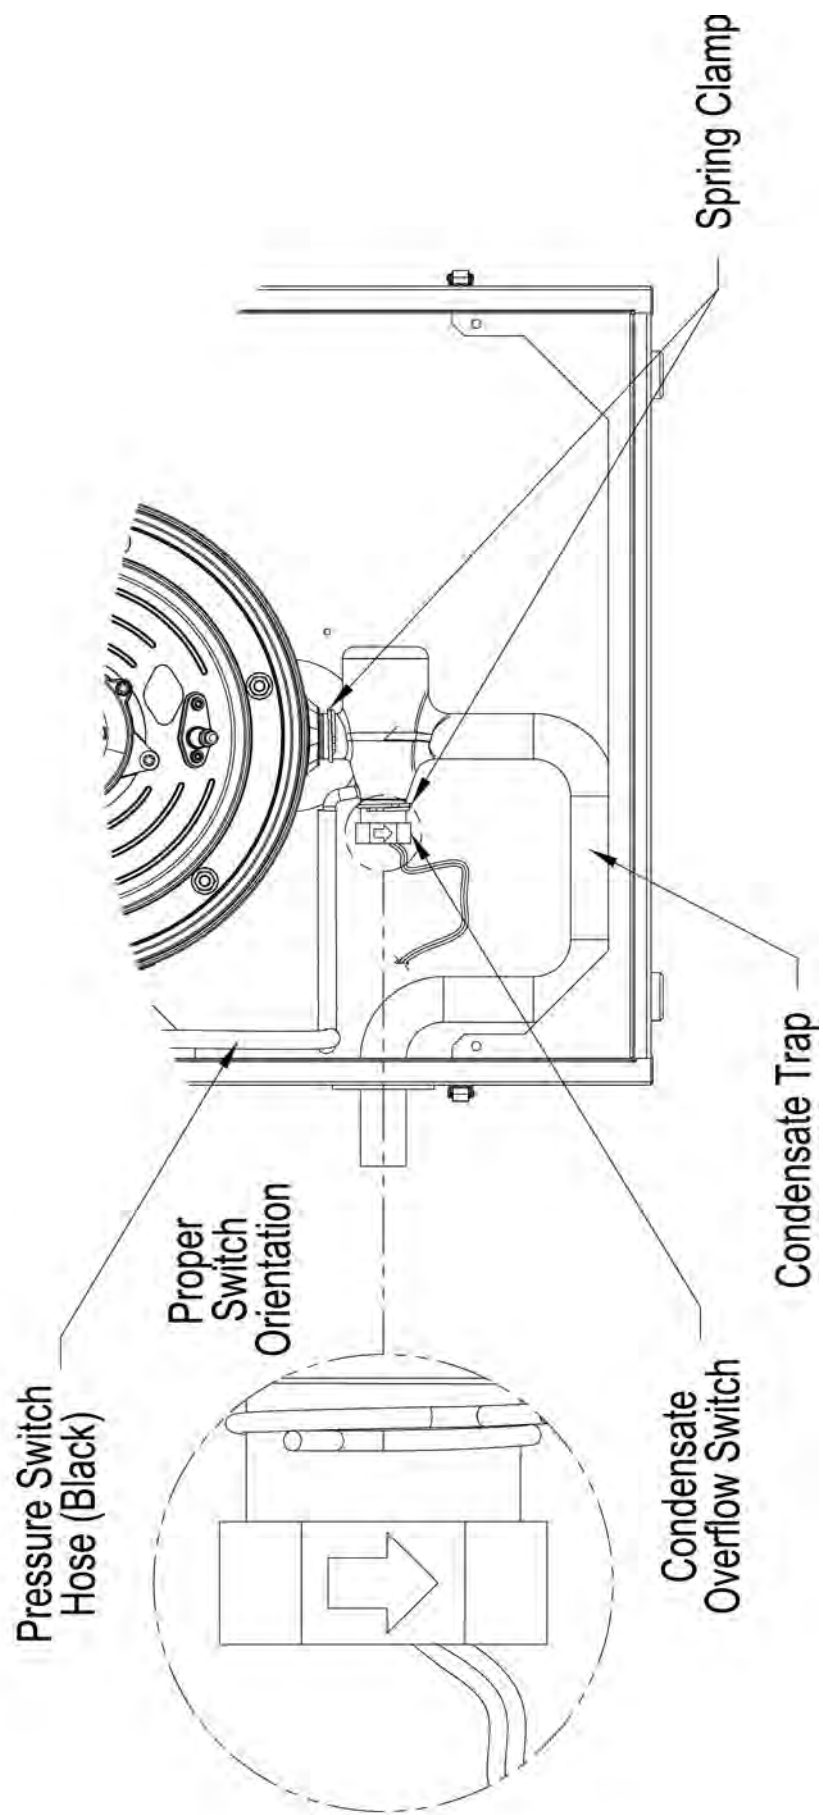

Figure 57: Condensate Overflow Switch Orientation
- b. Remove two (2) wire nuts and disconnect overflow switch wire pigtails from boiler wiring.
- e. **Apply silicon seal to the replacement switch threads and install the switch into the trap body making sure it is properly oriented - the arrow molded into the switch hex end side must face down for proper switch operation. See Figure 57 "Condensate Overflow Switch Orientation" for details.**
- j. **Insure that fresh silicon sealant is applied to the overflow switch threads, and the switch is properly oriented relative to the trap body - the arrow molded into the switch hex side end must face down for proper switch operation. See Figure 57 "Condensate Overflow Switch Orientation" for details. Insure that pressure switch hose is reconnected to the trap.**